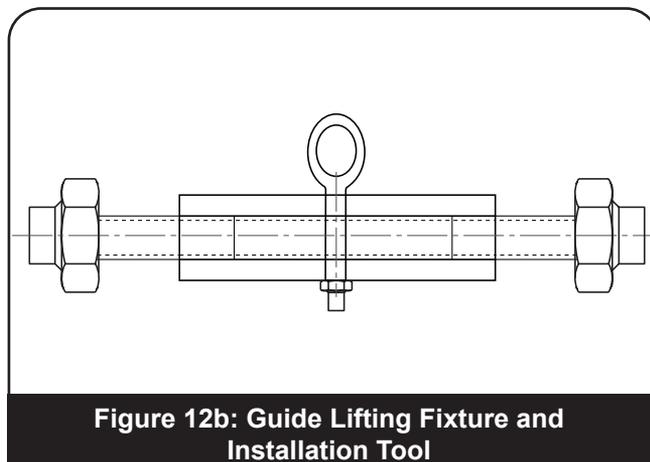

Figure 12b: Guide Lifting Fixture and Installation Tool
8. To remove the Main Guide (8), first remove the Upper Backing Ring (9) from the guide. Using the tool shown in Figure 12b (Baker Hughes Part No. 4128201), rotate extension rods until tips extend fully into the upper backing ring groove. Each end of the engaging tips should be equally spaced from the center of the lifting eye. The guide can now be lifted out of body.
Lubricate the guide lightly with silicone. Install the guide assembly tool, Figure 12b in Section XV, and lower the guide into the valve body until it seats solidly within the body. Remove the assembly tool. Install the Upper Backing Ring (9).